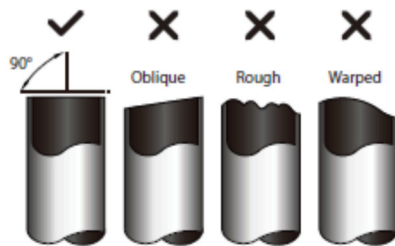

Fig. 6.1
4. Make sure that the pipe is cut at a perfect 90° angle. Refer to **Fig. 6.1** for bad cut examples.